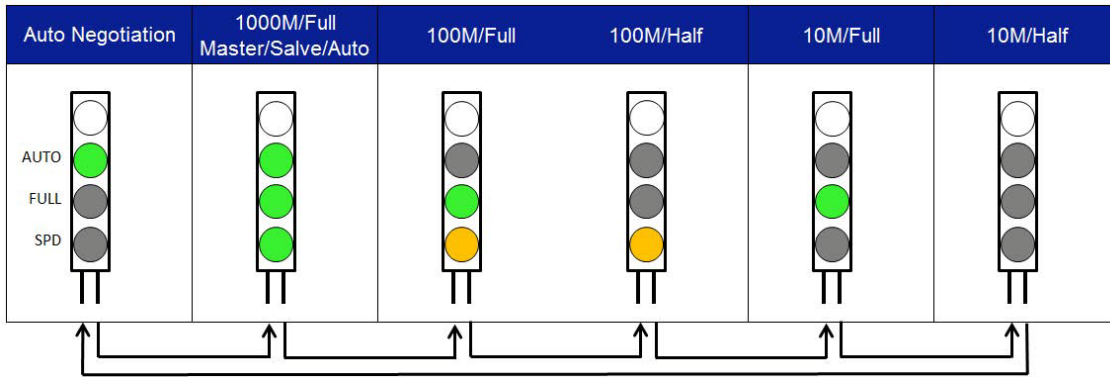

Figure 41. Port Configuration
3. Push the MODE button for less than 1 second to select a pre-configured port configuration setting. Figure 41 shows the port configuration vs. the MODE LED display when you press this button - starting with "Auto-Negotiation". Each time you press this button, the port configuration will advance through this sequence to the next pre-configured setting and then repeat as shown. Select the speed and duplex configuration that you require for all of the ports.
4. Push the MODE button for less than 1 second to select a pre-configured port configuration setting. Figure 41 shows the configuration setting when you press this button - starting with "Auto-Negotiation". Each time you press this button, the port configuration will advance in this sequence to the next pre-configured setting. Select the port configuration that you require.